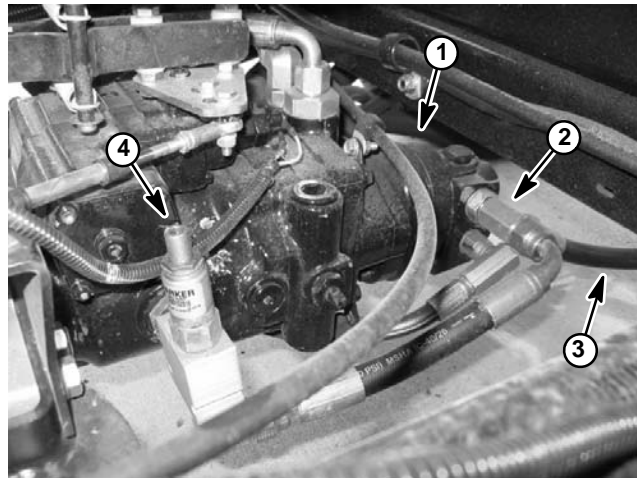

Figure 19
3. Clean hydraulic fittings and install tester with pressure gauges and flow meter in series between the gear pump tee fitting and the spray motor circuit pressure hose (Fig. 19). **Make sure the tester flow control valve is completely open.**
A. If relief pressure specification **is not** met, adjust spray circuit relief valve (Fig. 19) (see Adjust Relief Valve in the Adjustments section of this Chapter). After adjustment, retest relief valve pressure.